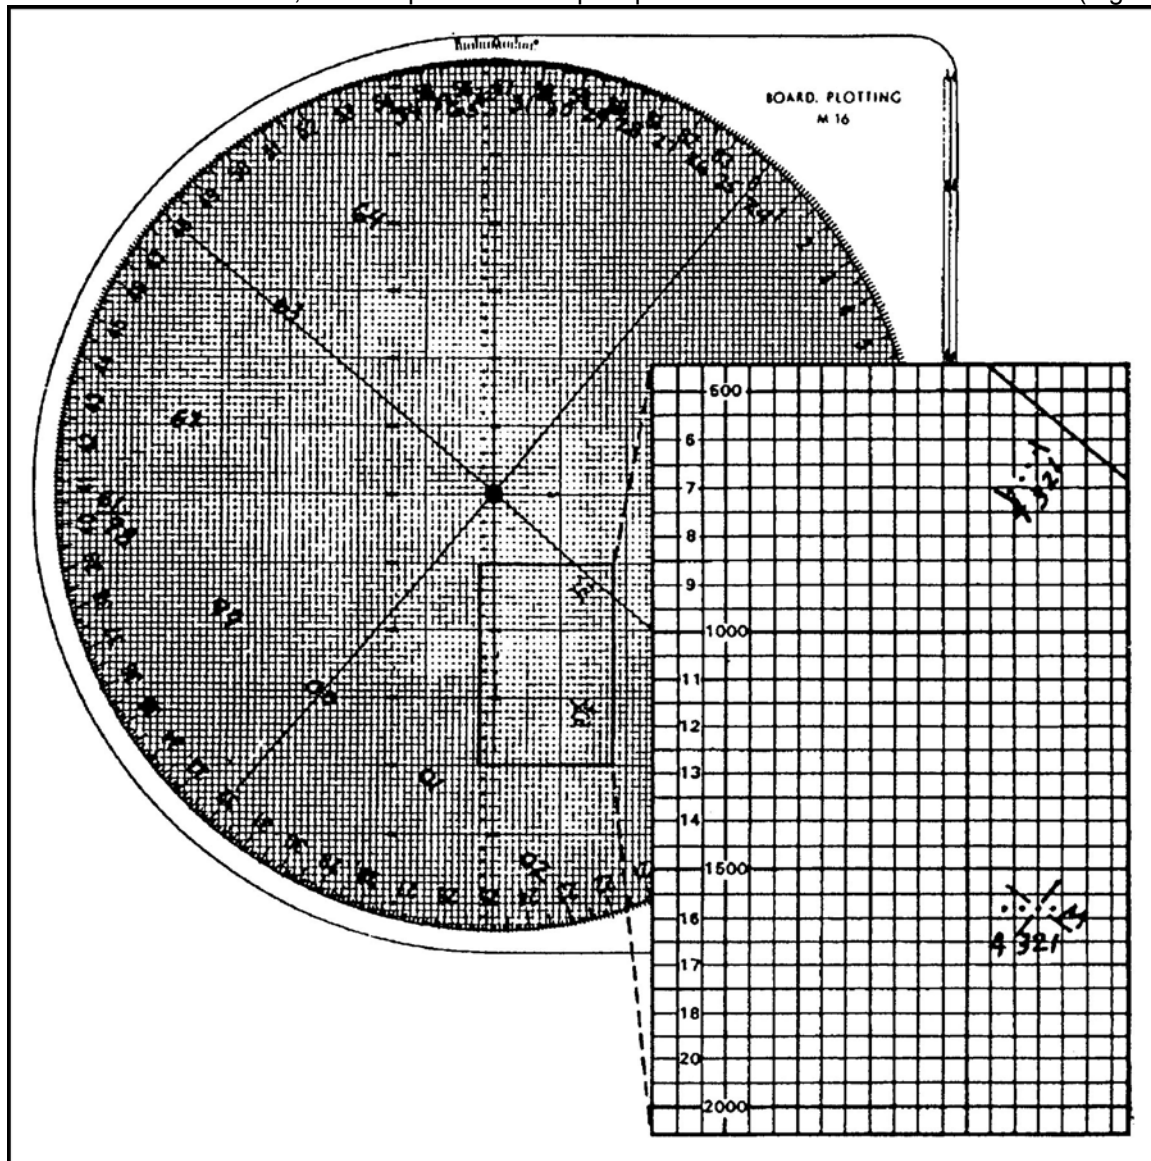

Figure 3. Plotting the impact points.
EXAMPLE: (Figure 3)
- (b) The computer now plots the locations of the No. 1, 3, and 4 mortars. Keeping the altitude indexed, the computer goes 40 meters above the plot and makes a small plot; he then goes 40 meters below the first plot and makes another plot, then moves 40 meters below this plot and makes another plot. The computer now has four plots in a row, which represent the impact points of the four mortars on the FPF (Figure 3).
mortar position. By rotating the disk back and aligning the FPF and the mortar positions, the computer can easily tell which are the No. 1, 3, and 4 mortar plots and which plot on the FPF is each mortar's impact point (Figure 3).